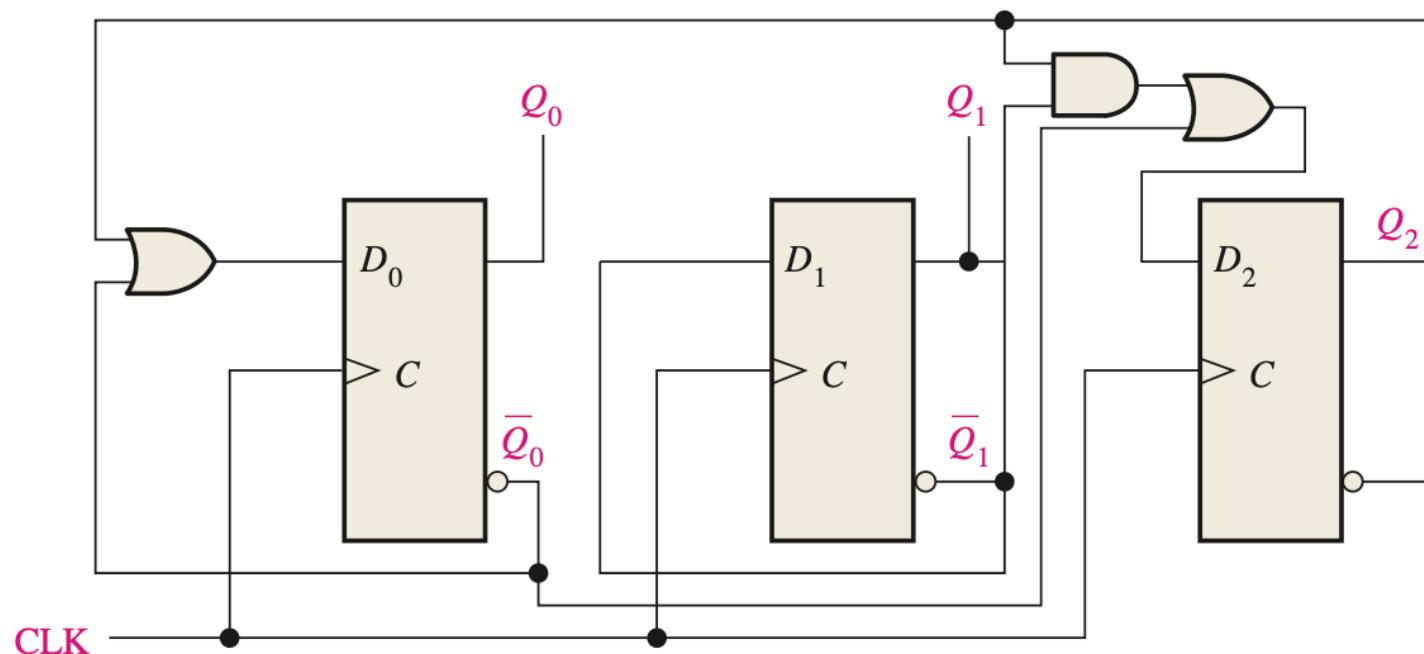

FIGURE 9–32
Step 6: The implementation of the counter is shown in Figure 9–32.